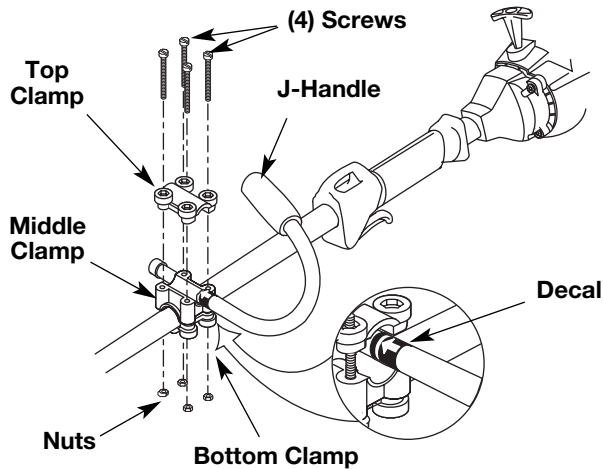
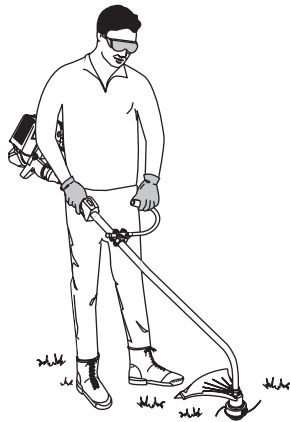

Figure 1
Figure 2
1. Place the J-handle between the top and middle clamp pieces. See Figure 1.
2. While holding the three pieces together, install the four (4) screws through the top clamp and into middle clamp.
5. Slide the J-handle in or out until the arrow/white line on the decal touches the clamp assembly (Fig. 1). You must first loosen the screws if the handle is pre-installed. See Figure 2.
6. While holding the unit in the operating position, position the J-handle to the location that provides you the best grip. See Figure 2.